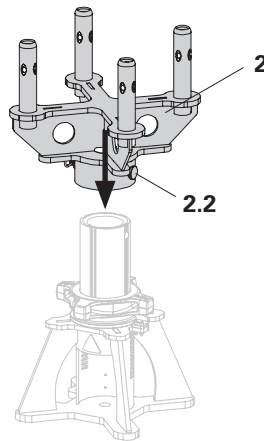

Fig. A1.02a
1. Place the connection plate (**2**) with connecting bolt (**2.2**) on the spindle tube. (Fig. A1.02a)